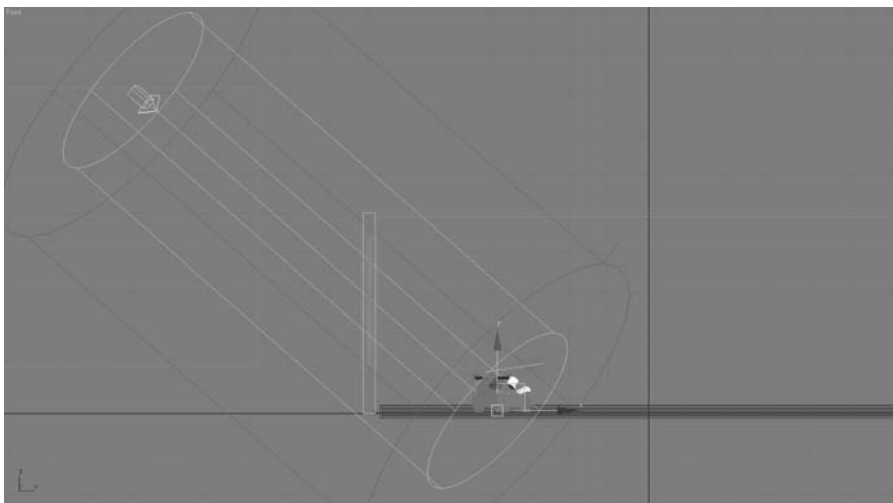

Figure 10.79
3. If you do a Quick Render (F9), you will see that the scene is being lit from the direction of the light (Figure 10.79).